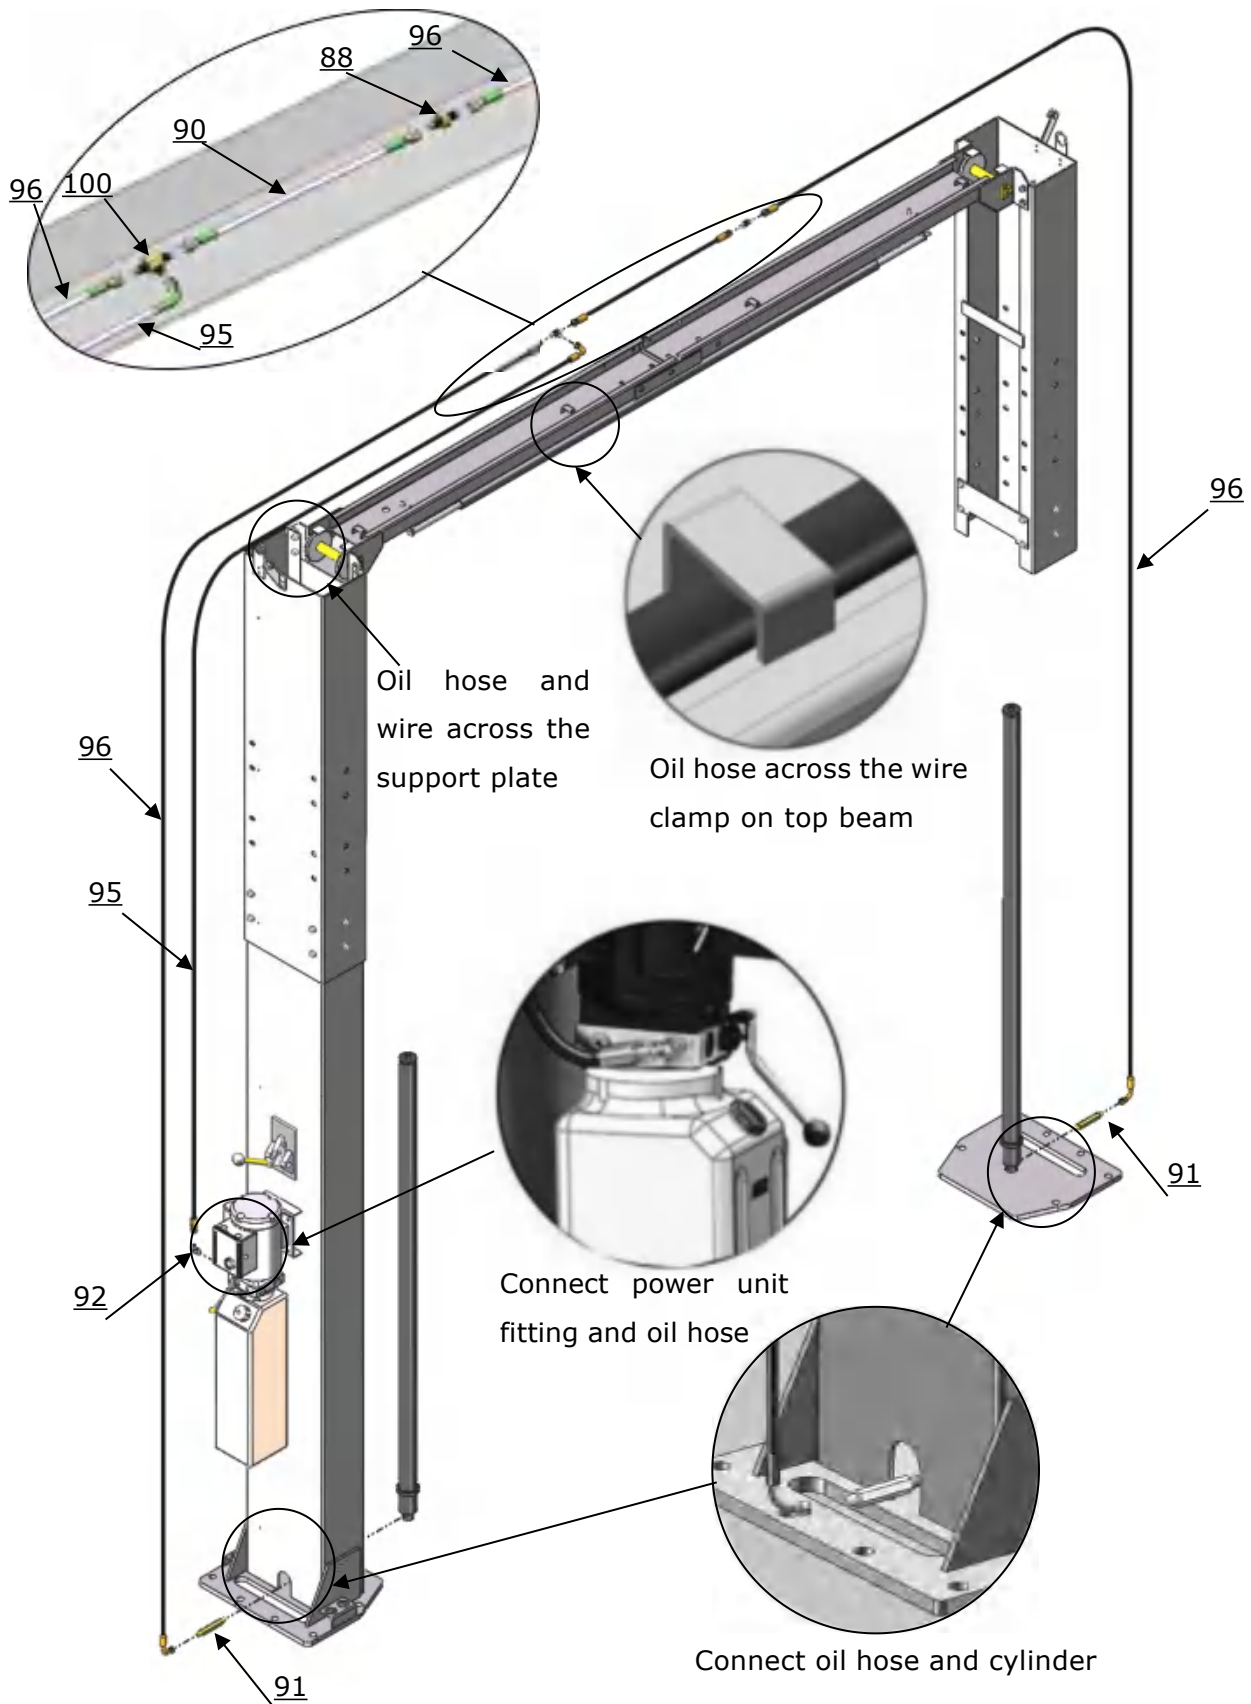

Fig.33
1. Oil hose installation of high setting. (Fig.33)